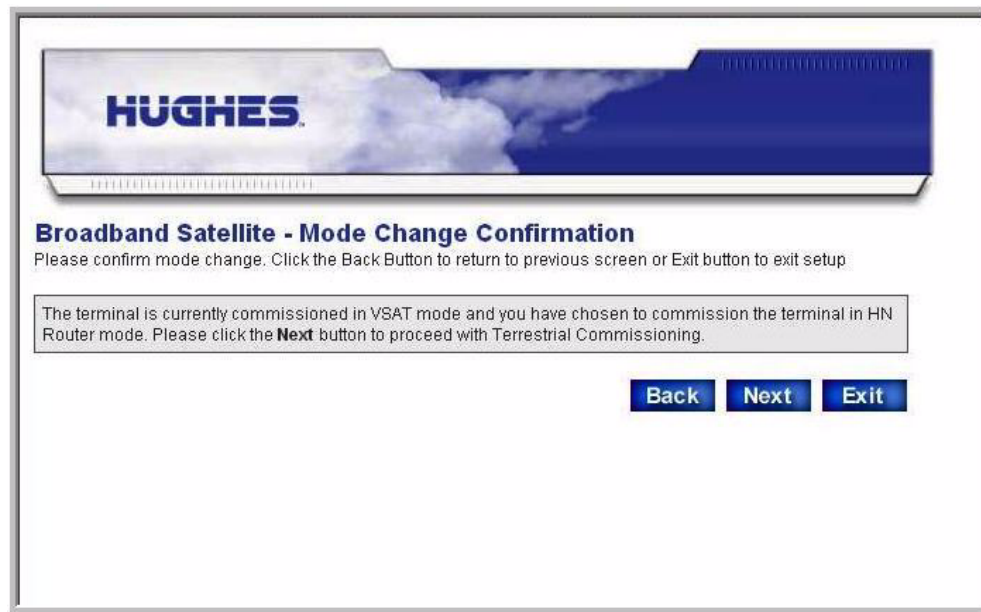

Figure 10: Mode Change confirmation
7. The Mode Change Confirmation page displays as shown in Figure 10.